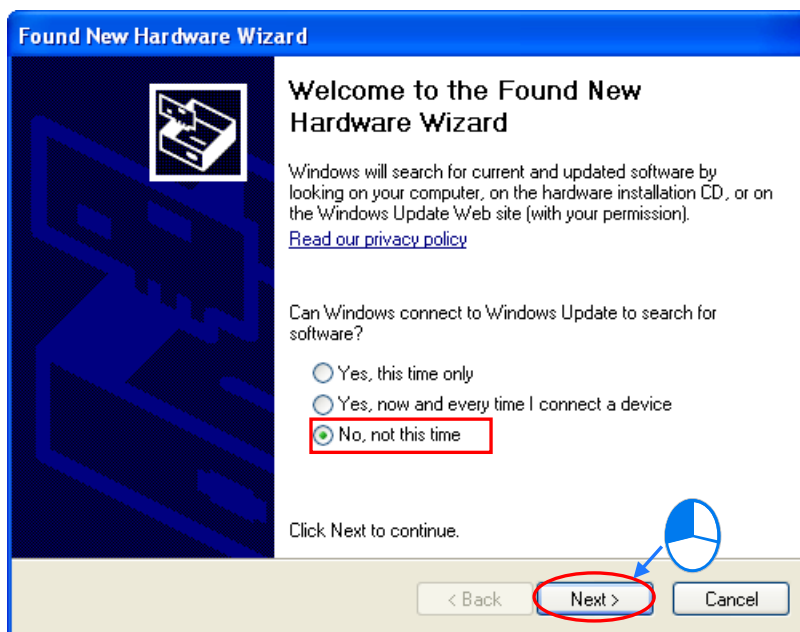

Figure B-1 Process of installing a USB driver
- (1) The users have to make sure that a TP series text panel is supplied with power normally. After they connect the TP series text panel to a USB port on the computer with a USB cable, the **Found New Hardware Wizard** window will appear. The users have to select the **No, not this time** option button, and then click **Cancel** in the **Found New Hardware Wizard** window, as shown in Figure B-1.